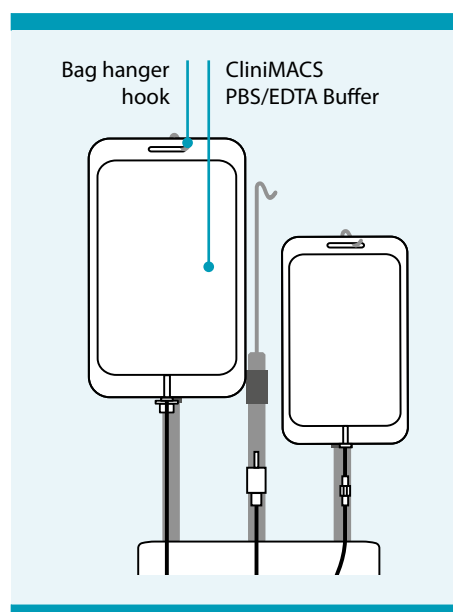

Figure 7.9: Attach buffer bag
2. Attach the buffer bag to the buffer bag hook on the bag hanger (see Figure 7.9).